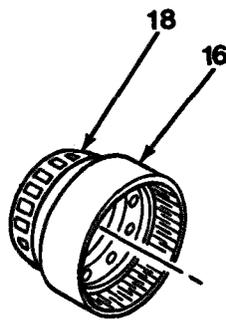

Figure 12-6
1. Remove bearing cone (18), if necessary, from ring gear carrier assembly (16, Figure 12-6).